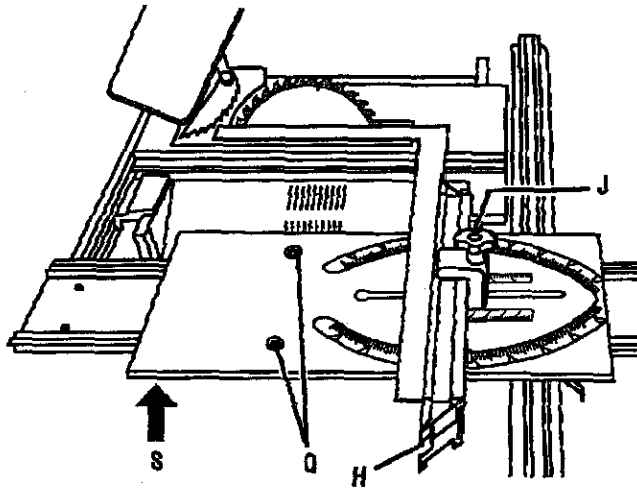

Fig. 35
- Set the miter fence (H) at 0°. Miter indicator should be set precisely on 0° and secured in place with adjusting clamp (J).
- Loosen the rear hex nuts (Q) on top of sliding miter table for this adjustment procedure.
**NOTE:** The front screws (R) are only needed to remove excessive play in the slides due to wear from extended use. They are not needed for this procedure. The right front hex nut is a non-eccentric pivot and should never be loosened.
- Push left rear of miter table snugly against miter base as shown by the arrow (S) in figure 35 and secure.